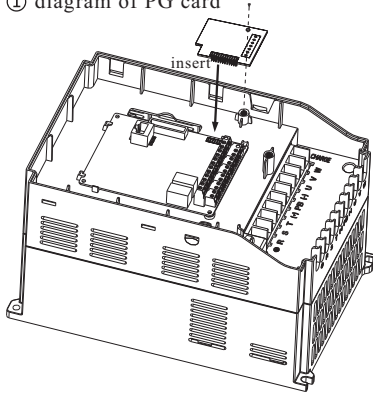
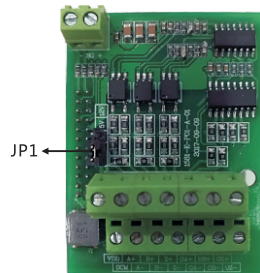

Figure 1 Install of PG extension card
Figure 2 PG card
- ①: make sure the AC drive is power off completely.
- ②: insert PG card and extension card of inverter.
- ③: fix by screw as Figure 1
- 2 ) The appearance, terminal block and function description are shown in figure 1, figure 2 and table 1.
- ① diagram of PG card